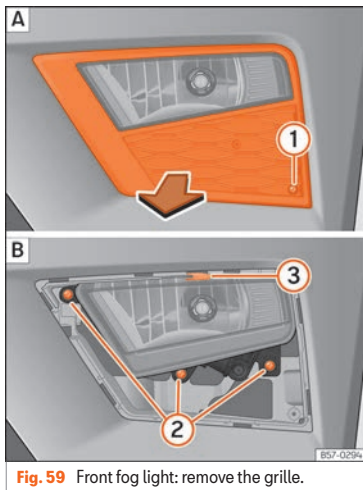
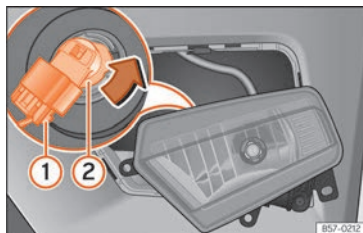

Fig. 59 Front fog light: remove the grille.
Fig. 60 Front fog light: remove the bulb holder
- Remove the screw »» Fig. 59 ① A from the fog light grille using a screwdriver and extract the grille.
- Remove the 3 screws »» Fig. 59 ② B.
- Remove the metal clip situated on the upper part of the fog light by pulling away from the vehicle ③ B and extract the fog light.
- Remove connector »» Fig. 60 ① from the bulb.
- Turn the bulb holder »» Fig. 60 ② anticlockwise and pull.